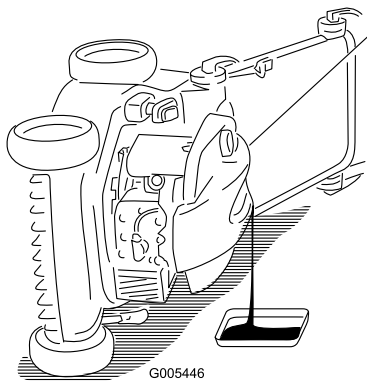

Figure 23
5. Remove the dipstick from oil fill tube and place a drain pan next to the **left** side of the mower (Figure 23).